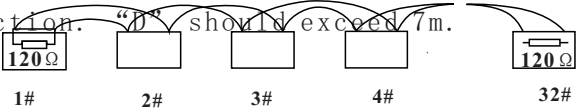

Figure1
a)The RS485 standards require a daisy-chain connection between the equipment. There must be termination resistors with 120 impedance at both ends of the connection. (refer to Figure 1).Please refer to Picture 2 for simple connection.